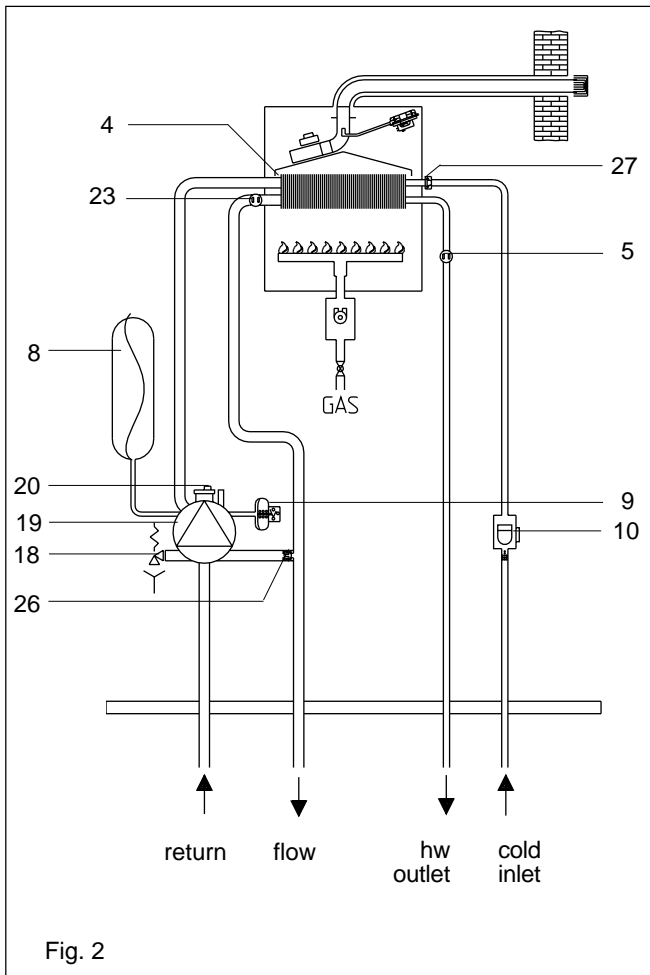

Fig. 2
- 26 Auto by pass (fig. 2)
- 27 Water flow restrictor (fig. 2)